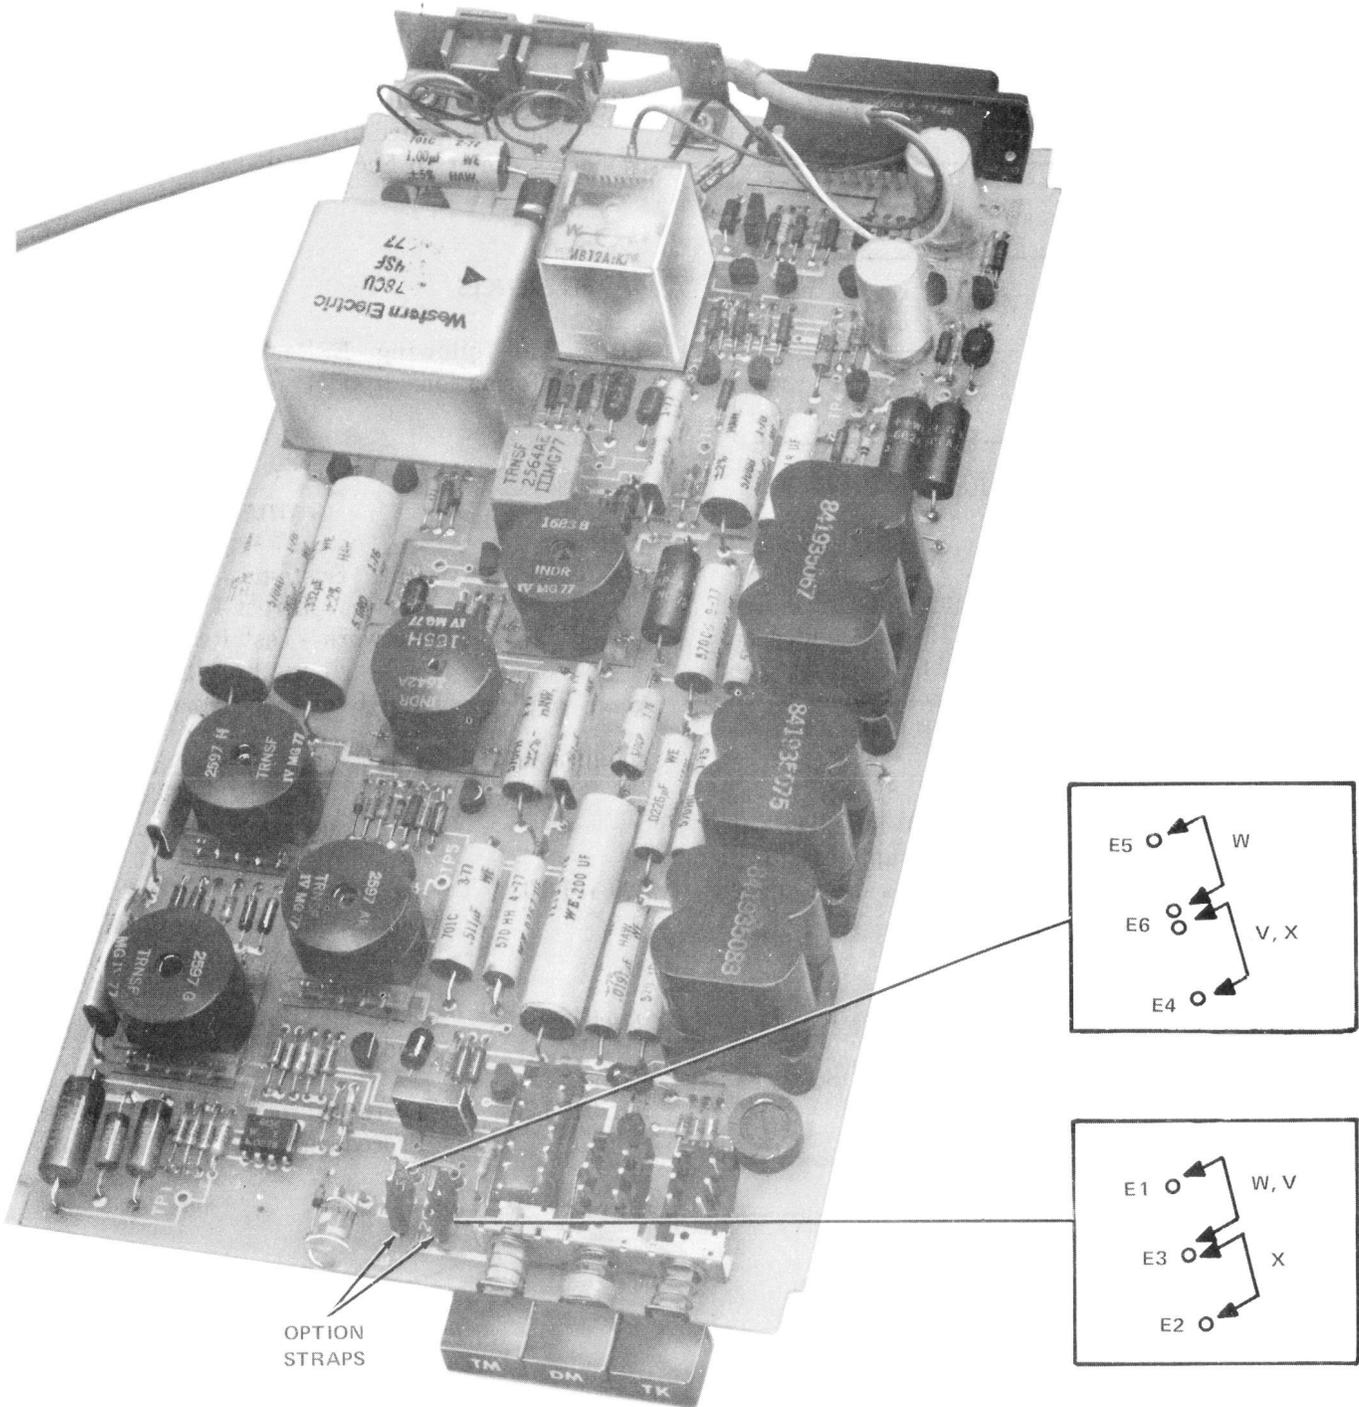
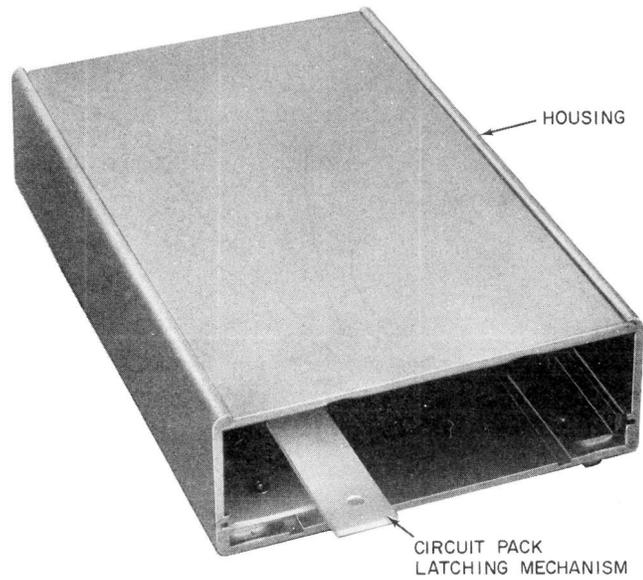

Fig. 2—Circuit Pack Showing Location of Option Straps
Fig. 3—Housing
2.02 The options are installed by properly inserting two plug-in option straps in the circuit pack. Refer to Table A for the terminal assignments and to Fig. 2 for their locations on the circuit pack. The circuit pack should be removed and replaced from the rear of the housing. The circuit pack is held in position by the latching mechanism shown in Fig. 3.